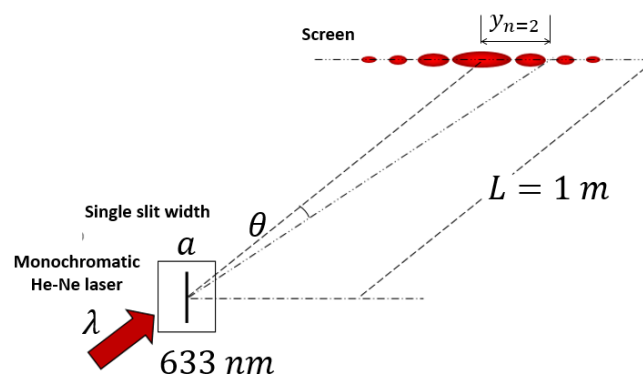
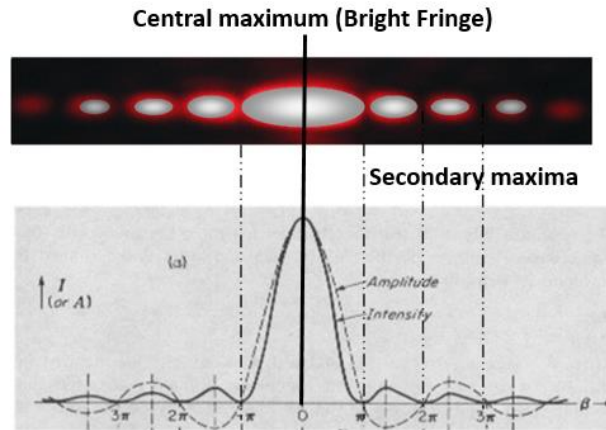

Figure 10.1
Figure 10.2
### 2. Apparatus (Figure 10.1)
In general, diffraction occurs when waves pass through small openings, around obstacles, or pass sharp edges. When monochromatic light from laser passes through a narrow slit and is then intercepted by a viewing screen, the diffraction pattern will appear on the screen as shown in Figure 10.1. The pattern consists of a broad and intense central maximum (bright fringe) and much weak bright fringes (called secondary maxima) alternating dark fringes that are on both sides of the central maximum. (see Figure 10.2)
1. Place the experimental apparatus according to the following diagram in Figure 10.1. Stick a paper on the screen to record the diffraction pattern.